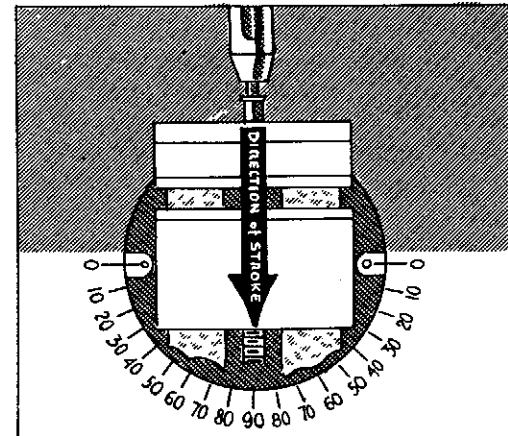

FIG.142
2. Note that the zero position is the one in which the vise jaws are set 90° to the direction of the stroke (Fig. 142).